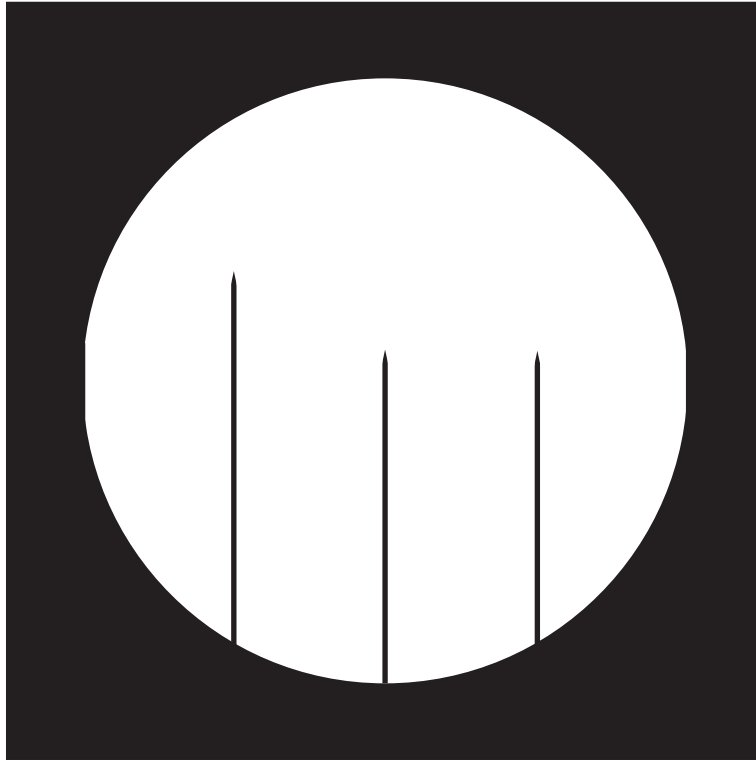
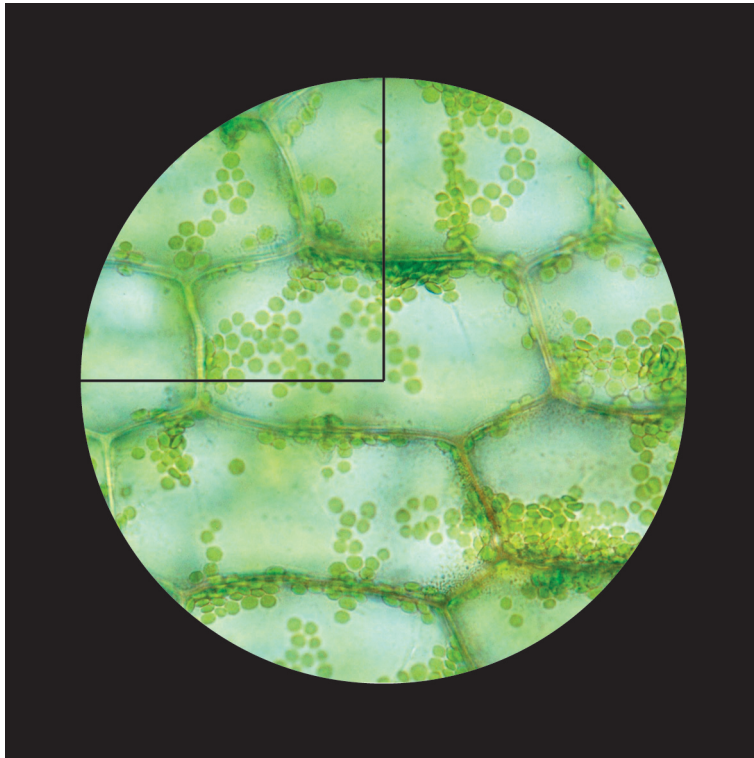

Fig. 2.2
Fig. 2.3
Fig. 2.2 shows a photomicrograph of a stage micrometer viewed through a microscope.
- find the area of the field of view, using Fig. 2.2
- count the number of chloroplasts in a quarter of the field of view, using Fig. 2.3 (on page 14)
Fig. 2.3 is a photomicrograph showing leaf cells, with the same field of view as in Fig. 2.2.
Fig. 2.3 shows chloroplasts in leaf cells. There are too many chloroplasts to count, so the technique of sampling may be used to estimate the number of chloroplasts in the field of view.
- Mark clearly **on Fig. 2.3** each of the chloroplasts counted.
- (c) (i) Prepare the space below so that it is suitable for you to record the observable differences between Fig. 2.3 and Fig. 2.4.